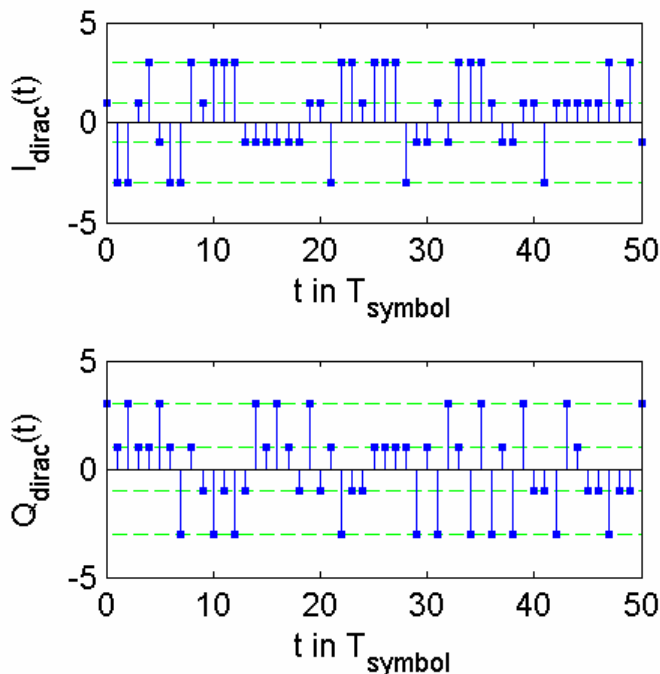
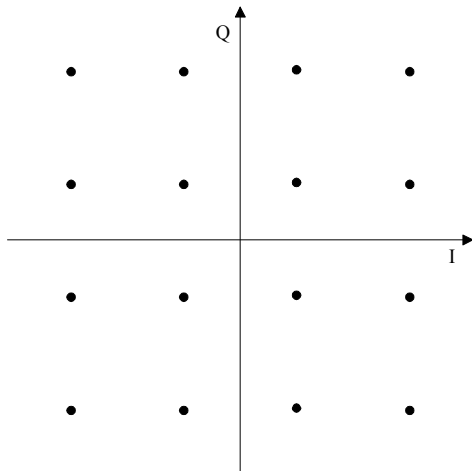
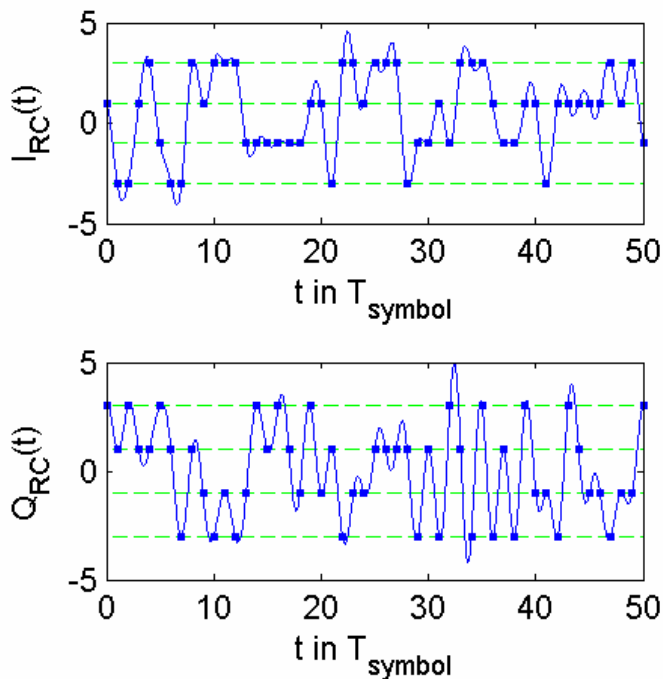

Fig. 2-45 Pulse signals $I_{dirac}(t)$ and $Q_{dirac}(t)$ for 16QAM
Fig. 2-46 16QAM constellation diagram
Fig. 2-48 Raised cosine filtered dirac signals $I_{RC}(t)$ and $Q_{RC}(t)$
The *symbol mapping* block transforms the digital information (bits) into the continuous signals $I_{dirac}(t)$ and $Q_{dirac}(t)$. $I_{dirac}(t)$ and $Q_{dirac}(t)$ (see Fig. 2-45) consist of dirac pulses that appear at times $t=n \cdot T_{symbol}$ and that can be distinguished by their in-phase "I" and quadrature "Q" levels. For example a 16QAM constellation has 16 different I and Q combinations and 4 different I and Q levels ($4 \cdot 4 = 16$). Typically this is visualized in a constellation diagram (see Fig. 2-46). With $16 = 2^4$ we are able to transmit 4 bits per symbol. Therefore we can calculate:
We notice that the symbol instants (highlighted with squares) are not on the horizontal lines (possible symbol levels) anymore. This is due to the inter-symbol interference introduced by the root raised cosine TX filter. Contrary to the signal filtered with two root raised cosine filters (TX and RX) the one filtered with a single root raised cosine filter (TX) does not satisfy the condition for zero inter-symbol interference. Fig. 2-48 shows the signal obtained by filtering the dirac signals with two root raised cosine filters. The convolution of two root raised cosine filters is also called raised cosine filter and it results in an overall inter-symbol interference free system. We observe that all symbol instants (highlighted with squares) of $I_{RC}(t)$ and $Q_{RC}(t)$ have exactly the same levels as the signals $I_{dirac}(t)$ and $Q_{dirac}(t)$ in Fig. 2-45. Please note that this is only true for the signals $I_{RC}(t)$ and $Q_{RC}(t)$ if there is no noise present in the receiver. In the case of noise points will turn into clouds, that is what can be seen in the Constellation Diagram measurement \(modulation analysis\).
Please note that the $2\pi/4$ rad (90 deg) rotational symmetry of the QAM constellation (see Fig. 2-46) leads to an ambiguity in the calculation of the amplitude imbalance. Ambiguity means that the QAM demodulator of the Cable TV Measurements option has no knowledge of the absolute phase in the transmitter but chooses one out of four possible phase angles (0, $\pi/2$, π , or $3\pi/2$ rad). It can be shown that the phase ambiguity leads to two possible amplitude imbalance values. For the amplitude imbalance the ambiguity can be resolved by using the definition as follows: